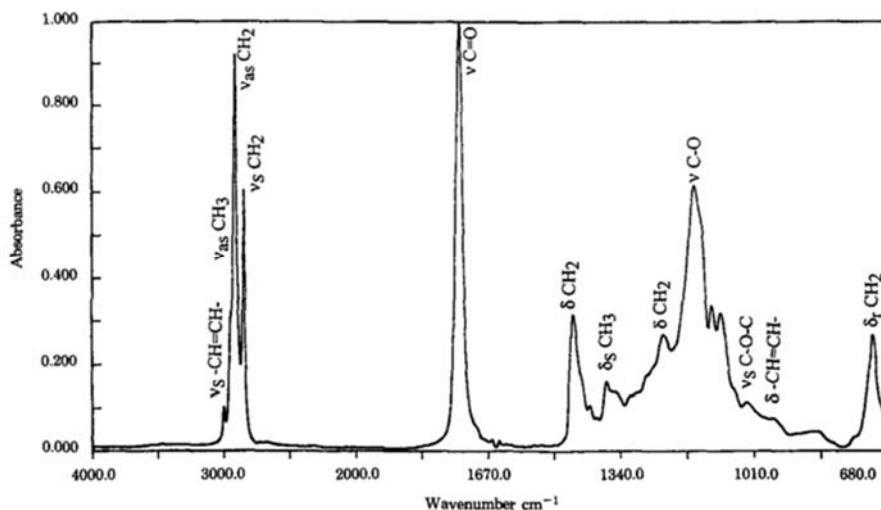

Figure 2. Infrared absorption spectrum of Olive Oil.
- Refer to Figure 2 and 3 to answer the questions below: